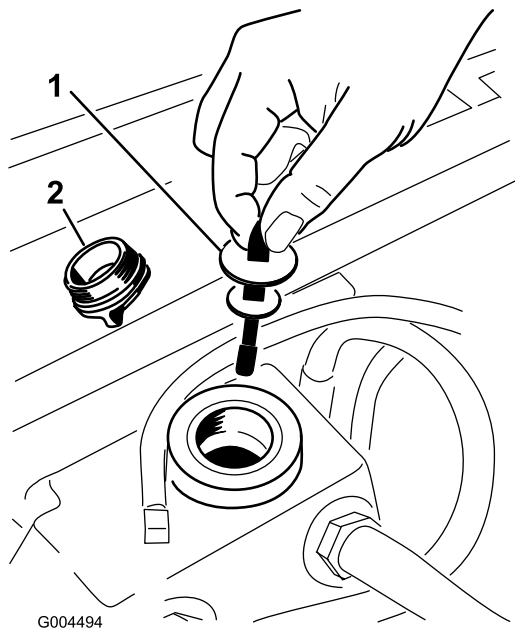

Figure 66
5. Remove the hydraulic fill cap (Figure 66) from the filler neck.
6. Remove the dipstick and wipe it with a clean rag (Figure 66).
7. Place the dipstick into the filler neck; then remove it and check level of fluid (Figure 66).